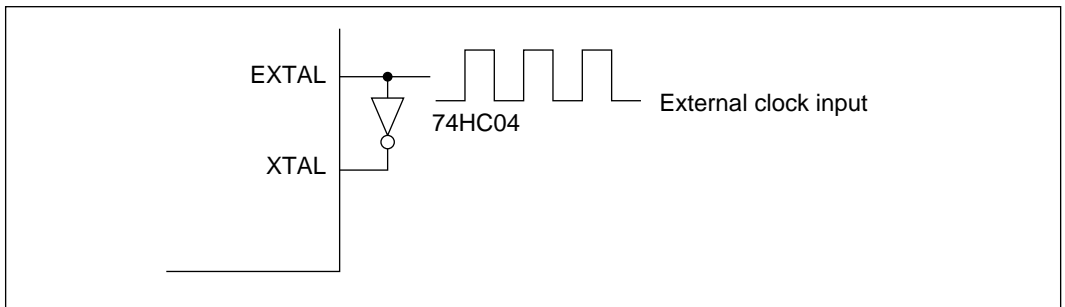

Figure 8-5 External Clock Input (Example)
- (1) **Circuit Configuration (HD6475368R, HD6475348R, HD6435368R, HD6435348R):** When using an external clock, input complementary clock signals to the EXTAL and XTAL pins as shown in figure 8-5. Make sure the external clock does not go high during standby mode.